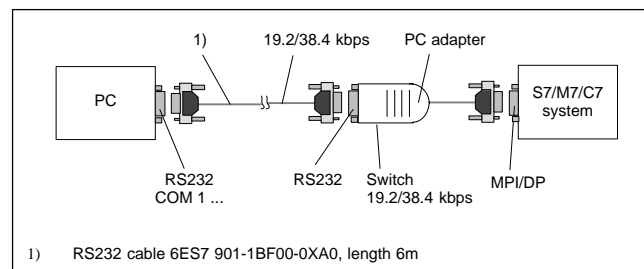

Figure 1-1 PC Adapter in the System
- See Figures 1-1/1-2 "PC/TS Adapter in the System" for direct connection details. An RS232 cable is required to connect a PC/programming device to the adapter's RS232 interface (COM2-PC-compatible). This cable must be ordered separately (see 3. "Accessories").